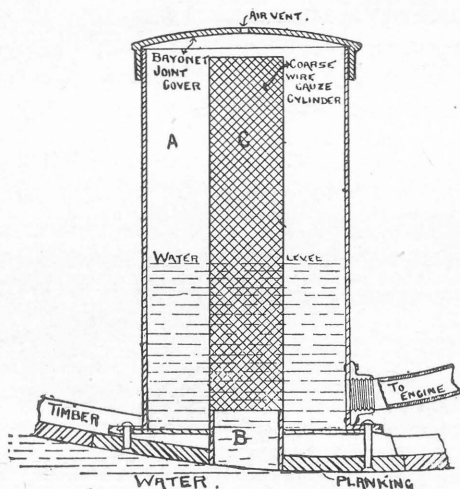

Fig. 6.—A circulating water inlet and filter.
We have seen that there is a risk of pumps being choked by dirt or seaweed, and it is therefore best to have some sort of strainer fitted to the intake pipe, which can be got at and cleared without difficulty. The point is not of so much importance in sea-going vessels as in boats used in shallow water or on rivers and canals. Fig. 6 shows a very good arrangement. There is a tube or case (A) with a lid at the top covering the inlet hole (B) in the bottom of the boat. The top of A is carried well above water level, and over B is fitted a wire gauze strainer (C). The suction pipe to the